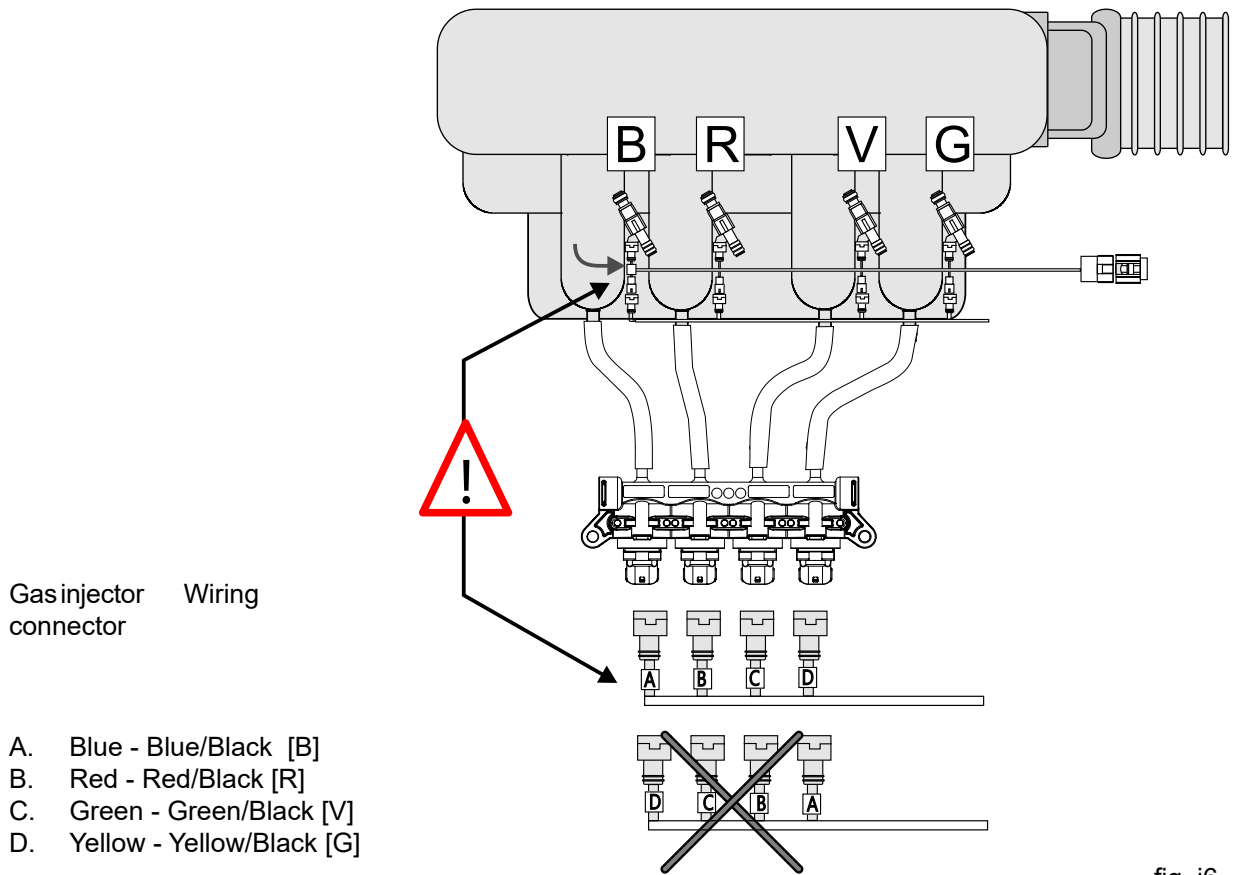

fig. i6
- The connections between the gas injector wiring and the petrol cut-out wiring (fig. i6, i7, i8 and “Petrol injector cut-out wiring”) are interconnected when doing the wiring up, make sure that the injector wiring is properly connected;